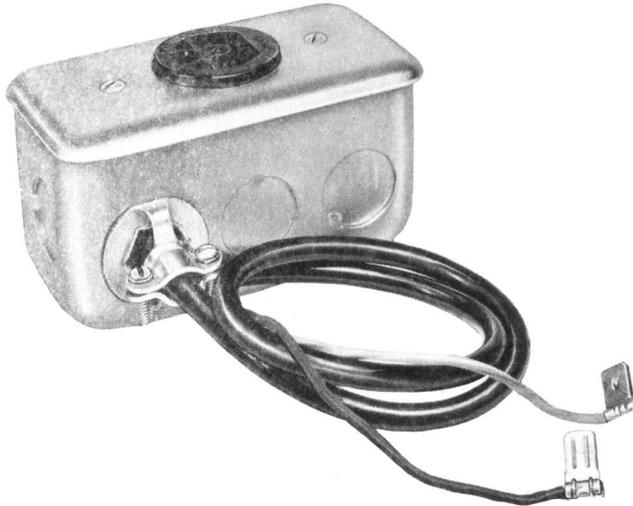

Fig. 2—KS-19580, List 51 Receptacle Assembly
2.09 In multiple installations, a KS-19580, List 51 receptacle assembly (Fig. 2) must be used in conjunction with a KS-19261, List 1 light control unit.